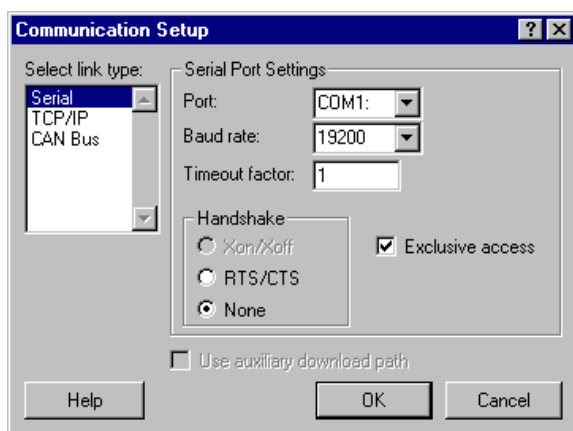

Figure 1-6: Setting up CrossView Pro Communications
- Select the Target | Communication Setup... item from the menu. This option opens up the Communication Setup dialog box as shown in figure 1-6.
- When you click on the `Communication setup...` button (if available), the `Communication Setup` dialog box opens as shown in figure 1-6. With the `Target Settings...` button you can open the `Target Settings` dialog. Please check the information in these dialogs before downloading an application.